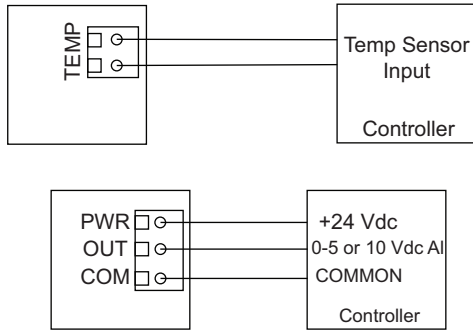

Fig. 71 – SAT/RH Sensor Wiring
- Pull at least six inches of wire into the enclosure, then complete the wiring connection per Fig. 71.
- The analog output is available on the OUT terminal. Check the controller Analog Input to determine the proper connection before applying power as shown in Fig. 71.
- The resistance temperature output is available on the two terminals labeled TEMPERATURE SENSOR as shown in Fig. 71.